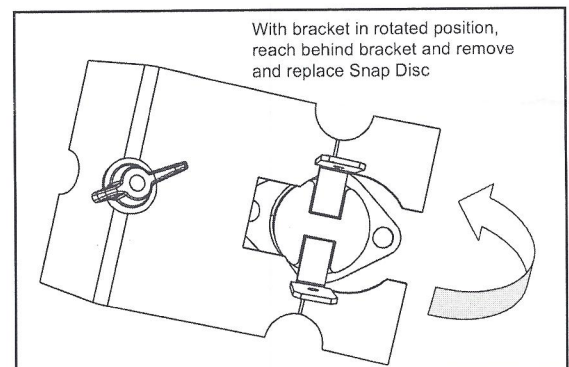

Figure 9
18. When bracket is loose enough, rotate the bracket counterclockwise and away from feed tube. **Figure 9.**